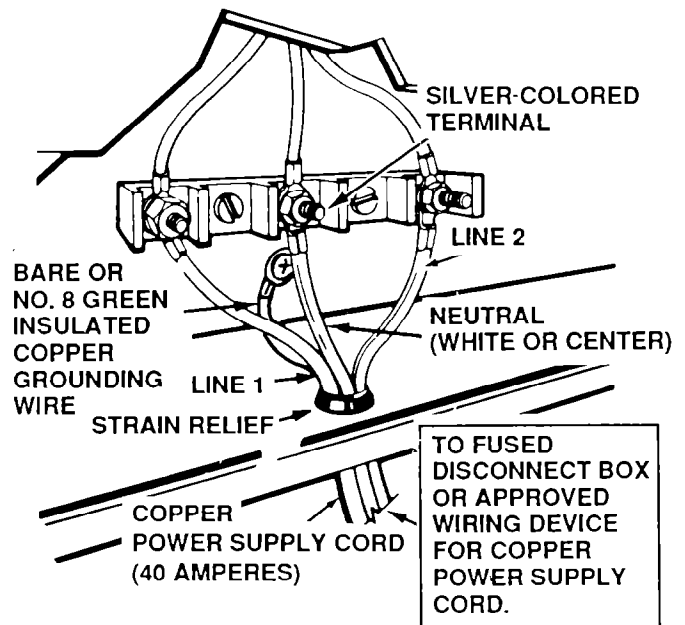
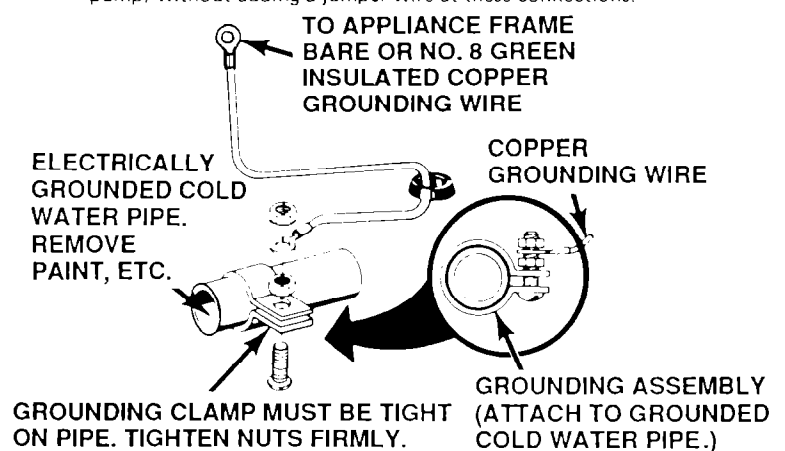

FIGURE 3
FIGURE 4
C. Connect the neutral wire of the copper power supply cord to the center silver-colored terminal of the terminal block and connect the other wires to the outer terminals. See Figure 3. Ring-type terminals must be used on the copper power supply cord wires.
D. Connect a separate insulated green-colored copper grounding wire (No. 8 minimum) to a grounded cold water pipe\* by means of a clamp, and then to the frame of the appliance with the grounding screw, using the hole in the frame where the grounding strap was removed. See Figure 3. Do Not ground to a gas supply pipe or hot water pipe. Do Not connect the copper power supply cord to electric power until appliance is permanently grounded. See Figure 4.